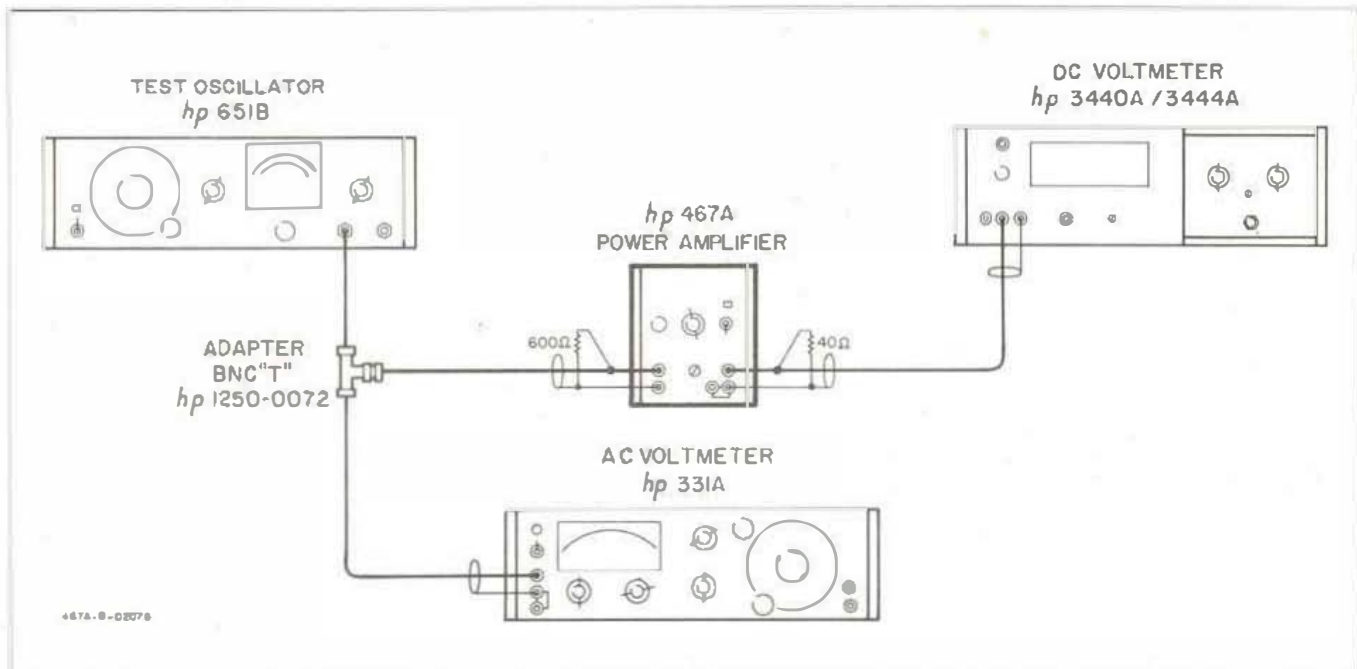

Figure 5-6. Balance Adjust
- Figure 5-6 describes the test arrangement recommended. A Test Oscillator (-hp- Model 651B), a DC Voltmeter (-hp- Model 3440A/3444A), an AC Voltmeter (-hp- Model 331A) and a 40 ohm $\pm 5\%$, 10 watt resistor (-hp- Part No. 0815-0028) will be required.
- b. Connect Model 467A as shown in Figure 5-6.